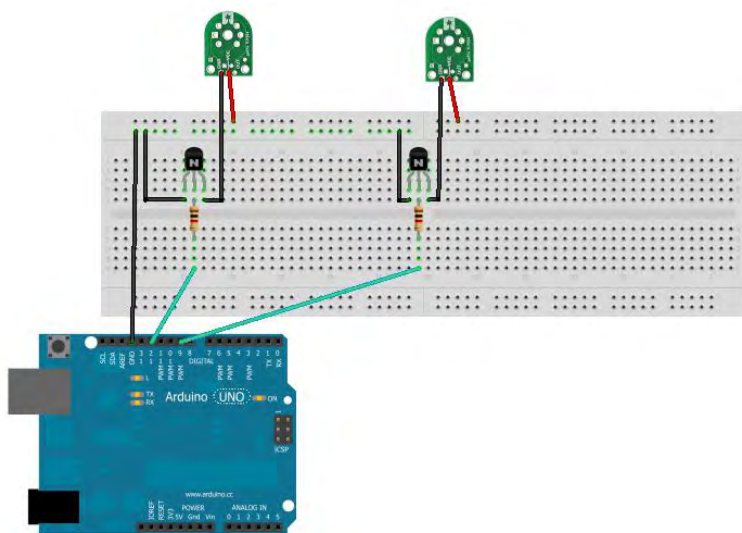

Figure 2-7. Step four.
4. Connect the +5 (VCC) sensor pins to the breadboard's power rail (Figure 2-7). Don't worry; we're going to add a power supply later.